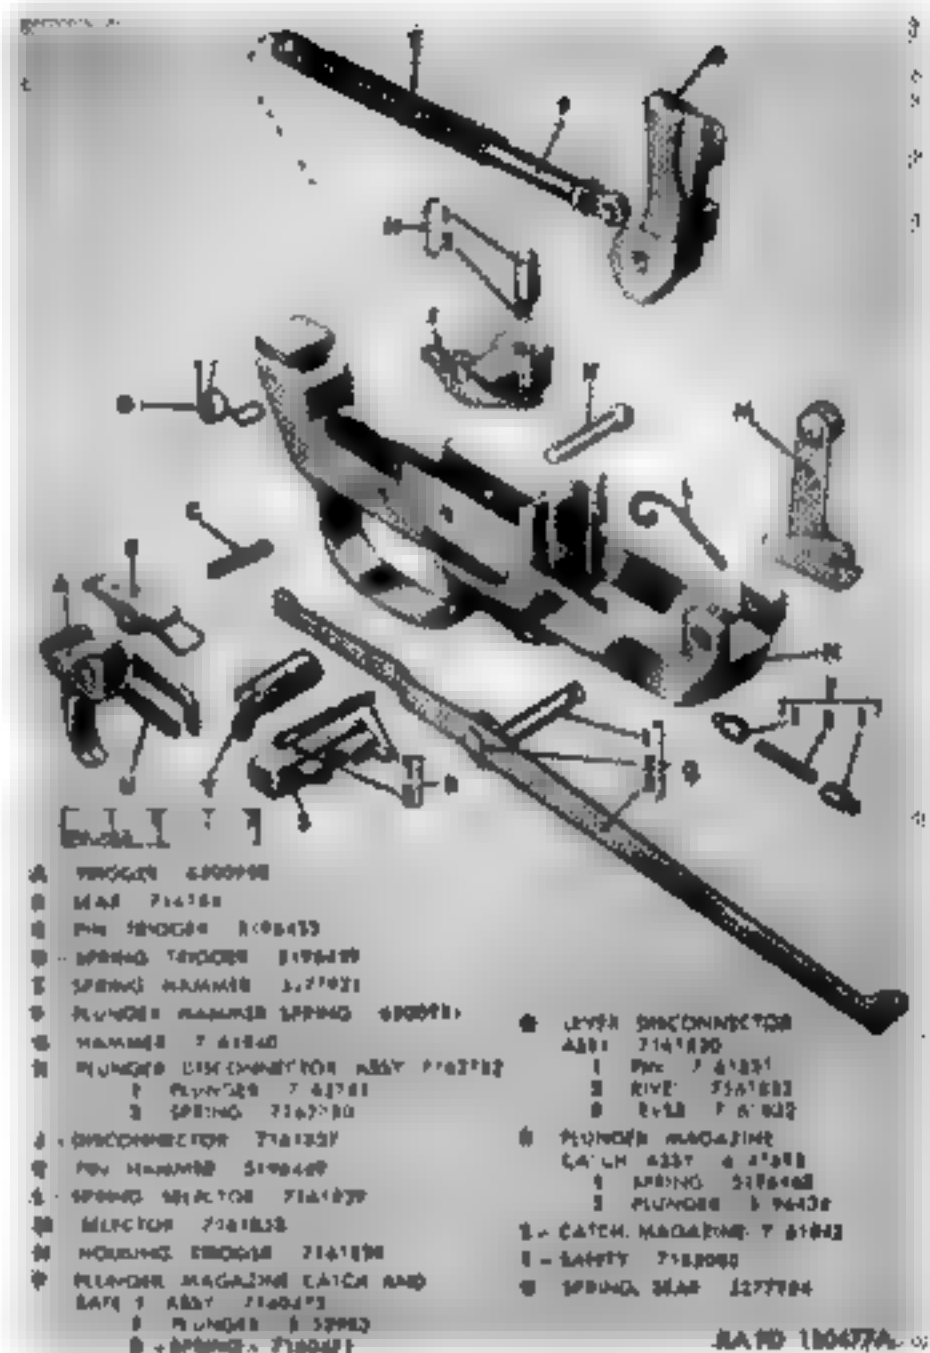

Figure 56. Trigger housing group — carbines M2 and M1
b. *Trigger Housing* (Fig. 56). See page 62 for inspection of the trigger housing. Also inspect the selector spring retention slot in left magazine post for foreign matter and positive spring seating so that spring will not turn when assembled.
c. *Hammer* (Fig. 56). See page 63 for inspection of the hammer. Also inspect milled cut on lower right side of hammer, which allows clearance for disconnecter, for burrs and wear (Fig. 49).
e. *Trigger* (Fig. 56). See page 64 for inspection of the trigger.
f. *Trigger Spring* (Fig. 56). See page 64 for inspection of the trigger spring.
g. *Sear* (Fig. 56). See page 64 for inspection of the sear. Also inspect top front portion (camming surface for disconnecter) for burrs and wear.
h. *Sear Spring* (Fig. 56). Check sear spring for positive seating in trigger and gear. Check for functioning, rust and set. Visually inspect during repair. Replace during rebuild.
i. *Safety* (Fig. 56). See page 65 for inspection of the safety.
j. *Magazine Catch* (Fig. 56). See page 56 for inspection of the magazine catch.
k. *Disconnecter* (Fig. 56). See that bearing slot in front end of disconnecter is free from foreign matter and burrs and is lightly lubricated. See that disconnecter spring is not weak, rusted, or broken, that spring well is free of foreign
l. *Disconnecter Lever Assembly* (Fig. 56). Examine the rivet of the disconnecter lever assembly which pivots the lever in the flat crank shaped end of the pin, to determine that the rivet is secure, that the hole in the crank of the pin is not enlarged, that this pivot is free from burrs, and is not worn. See that lever is not distorted or twisted on rivet, that it is free to rotate on the rivet and that ends are free from burrs and wear. Offset in rear section of lever is for alignment with disconnecter and should not be straightened. Be sure toe (front end) of lever bears squarely on cam on operating slide and is (slide retracted) under raised boss when lever is fully seated in the housing. See that holes in trigger housing for pin of disconnecter lever assembly are not enlarged.
*m. Selector and Spring* (Fig. 56). See that disconnecter pin slot in selector is not worn so it will cause lost motion or impair security. See that spring recess in rear end is free from foreign matter and will retain spring securely. See that selector spring is bent in only one plane (not twisted) and both ends seat securely in their retention recesses. If spring is loose when assembled, straighten slightly.